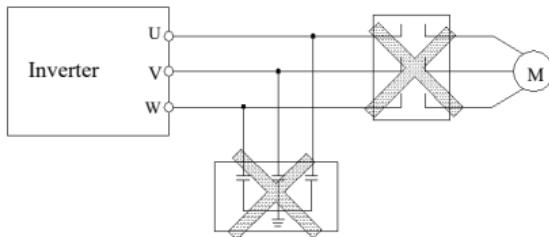

Fig.3-3 Banned magnetic control conductor and absorbing capacitance between inverter and motor
- (1) Assure power cut off completely for above 10 minutes before wiring, otherwise have danger of getting electric shock.
- (2) Forbid connecting power wire to output U, V, W of the inverter.
- (3) There is current leakage in the inverter and leak current of middle/high power inverter is bigger than 5mA, for safety reason, inverter and motor must be earthed safely, commonly use 3.5mm2 above copper wire as ground wire and ground resistance smaller than 10Ω.
- (4) Before shipment compression resistance test of the inverter is passed, so user should not conduct compression resistance test again.
- (5) Should not assemble electromagnetic contactor and absorbing capacitance or other absorbing device, see Fig.3-3.
- (6) To be convenient to over current protect of input side and power off maintenance inverter should be connected to power supply through relay.
- (7) Connecting wire for relay input and output loop(X1, X2, FWD, REV), should use above 0.75mm2 glued wire or shielding wire, one shielding layer end hung in the air, the other connected to grounding end  , connecting wire shorter than 20m.